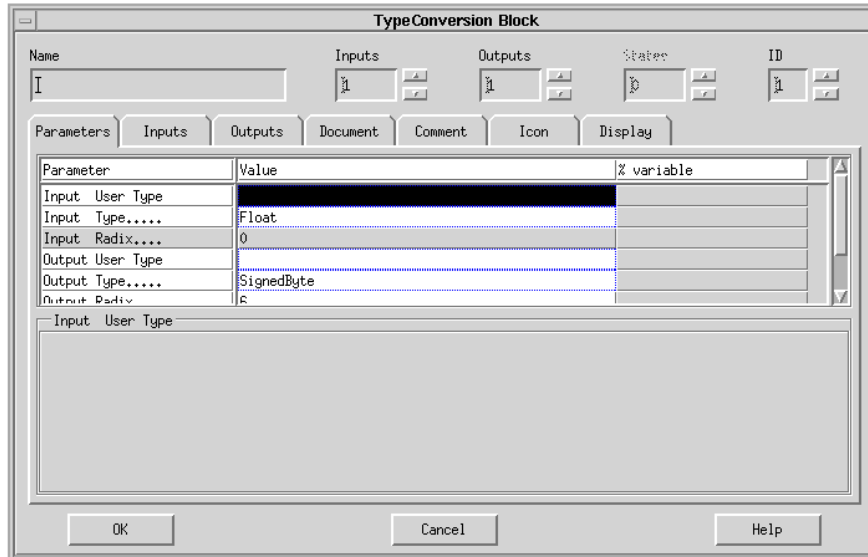

FIGURE 15-9 Block 1 Parameters Tab
2. The parameterization of the TypeConversion block is as follows: block 1 accepts a floating-point signal and produces a fixed-point output. Change the **Output Type** from Integer to Signed Byte, and give it a **Radix Position** of 6; this is critical to the precision of the output. See Figure 15-9 on page 15-18 for the parameters tab with these changes made.